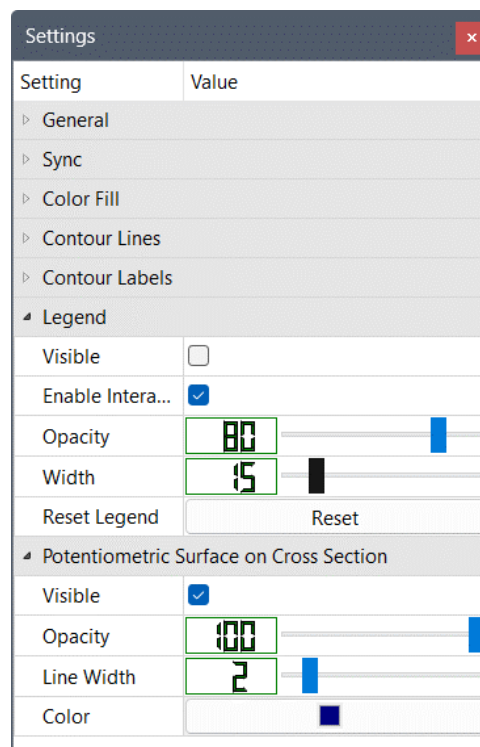

Figure 165. The Legend and Potentiometric Surface on Cross Section groups of the Settings window for Contour Maps
6. Legend (Figure 165)
7. **Potentiometric Surface on Cross Section** (Figure 165). This group appears only if the result data type is Hydraulic Head. See Section 4.2.2.2 for details.